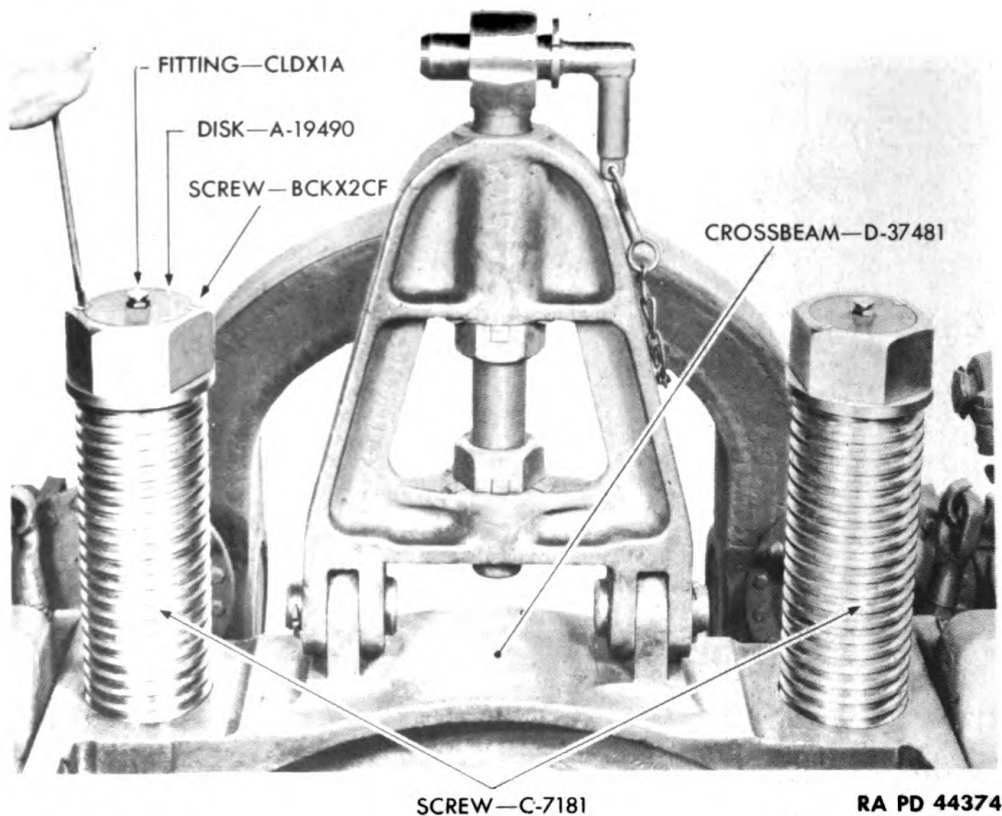

Figure 243—Removing Bogie Lifting Screw Disk
(1) Remove two screws BCKX2CF from disk A19490 and remove disk (fig. 243).
(2) Turn bogie lifting outer screw C7181 clockwise until outer screw threads are about 4 inches below crossbeam D37481. Do not prevent inner screw C7183 from turning.
(3) Place a round brass bar (1-in. diam x 24 in.) through lower